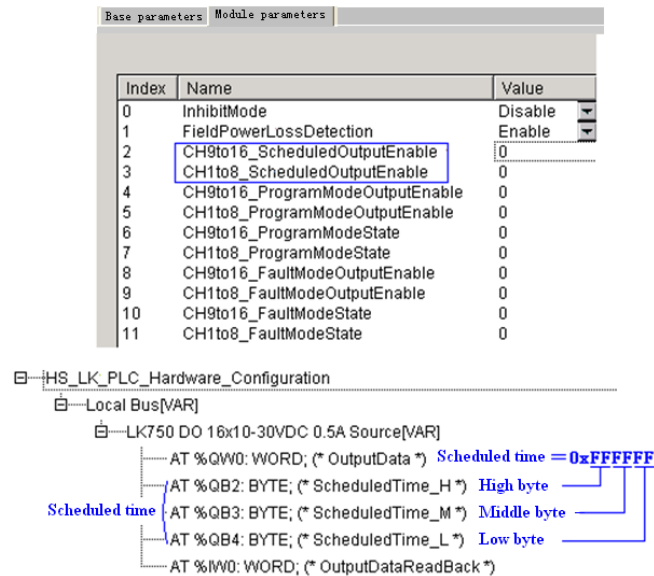

Figure 11.49: LK750 scheduled output settings
- After scheduled output is enabled, the output channel will only output data when the scheduled time arrives. Channels 1~8 can be configured to use scheduled output using the user parameter "CH1to8ScheduledOutputEnable"; channels 9~16 can be configured to use scheduled output using parameter "CH9to16ScheduledOutputEnable". The default for these parameters is that scheduled output is not enabled (Disable). As shown in Figure 11.49, the machine code for scheduled time, 0x000000~0xFFFFF, consists of 3 byte variables, namely, ScheduledTime_H, ScheduledTime_M, and ScheduledTime_L.